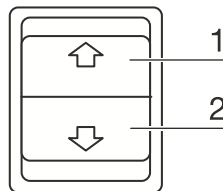

Figure 37 Basic Functions of the Auxiliary Rocker Switch
1. Press the control element [1/Figure 37].
3. To lower the window, keep the control element depressed [2/Figure 37].